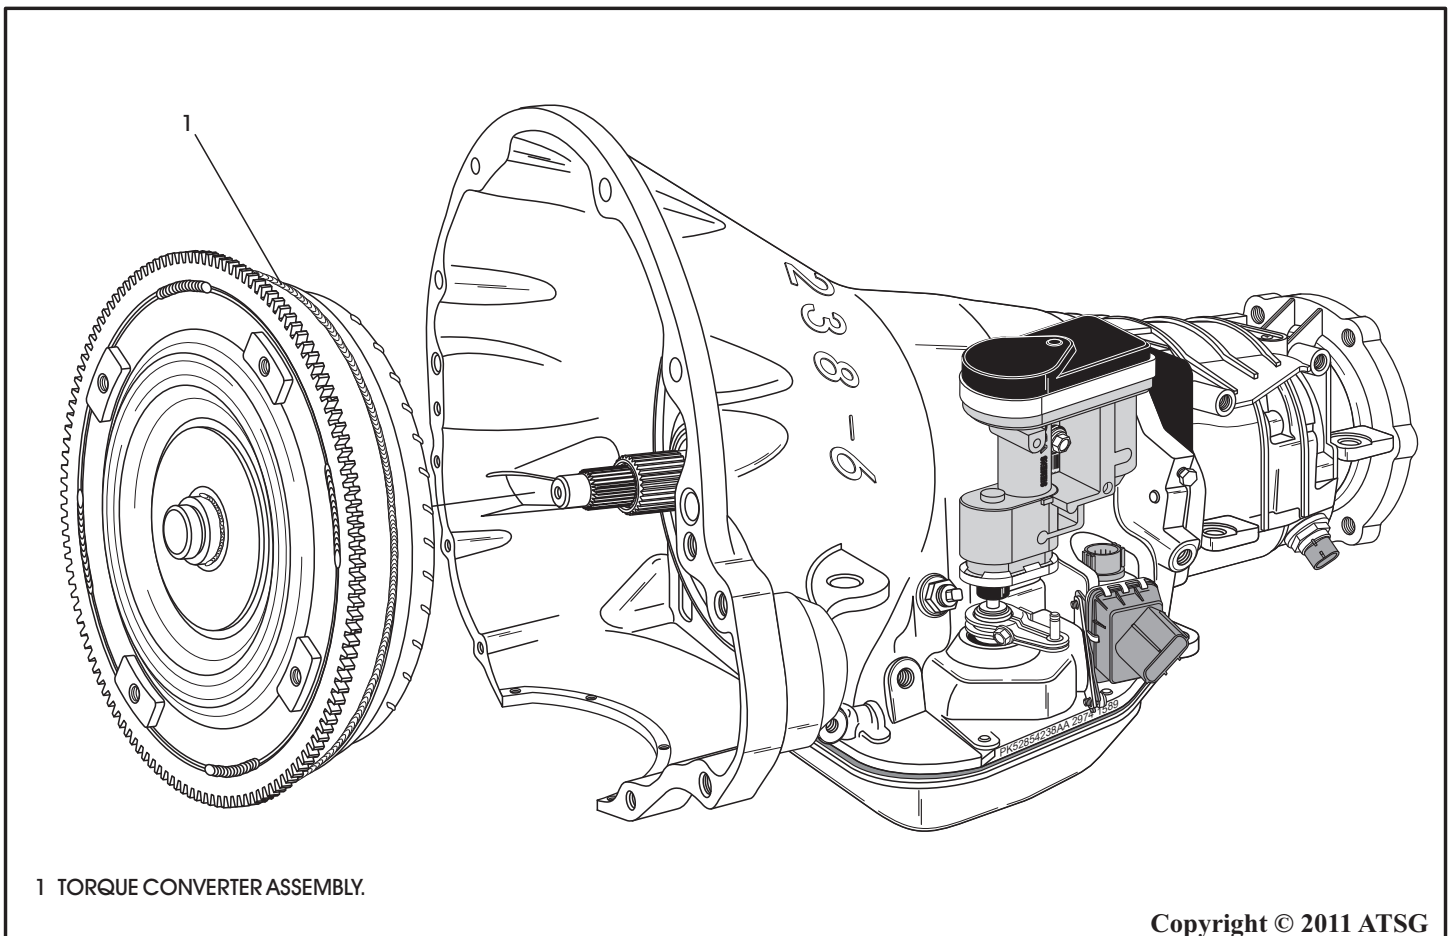

Figure 58
3. Remove the torque converter from transmission, as shown in Figure 58.